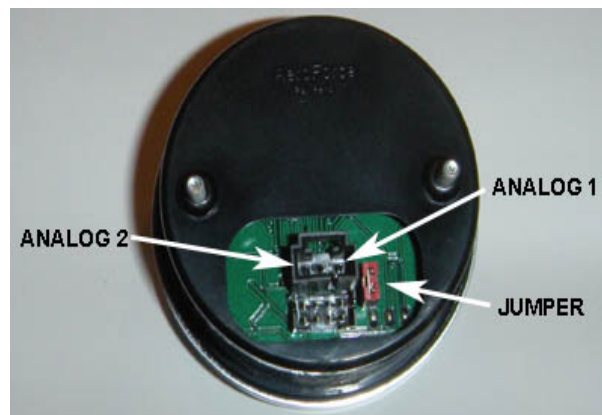

Figure 1
- 4. Plug both cables into the back of the *Interceptor*.** See figure 1. Press the *Interceptor(s)* into the gauge pod or mounting hardware.
6. **Connect the 0-5v analog inputs (optional).** You will see 3 pins above the main connector on the back of the gauge as shown in *figure 1*. The 2 outer pins connect to the analog inputs. The center pin is for switched 12v power and is not required for virtually any CAN bus vehicle. To connect switched 12v power first remove the **jumper** next to the main connector if connecting to external power. This jumper is required for OBD2 port power only. Connect separate **red** power wire, which exits the middle of the 3 wire mini cable as shown in *figure 1*, to a switched 12v line or circuit in the vehicle. These circuits are commonly known as “accessory” circuits because they are only “hot” when the ignition is turned on. A recommended way of doing this step is to use a product called an “*Add a Circuit*”, made by *Littelfuse*, available at most car parts outlets. These kits, which sell for under \$10, allow you to easily use an existing circuit in the fuse block, such as the power windows, sunroof, etc. to power the gauge only when the ignition is on, known as ACC circuits.
The right side pin, when looking at the rear of the gauge, goes to analog input 1. The left pin is for analog input 2. See *figure 1*. Included in the gauge packaging is a 3 wire cable that connects here. Once attached to the gauge, you'll see that the green wire is for analog 1, the white for analog 2. These inputs can be used to read the outputs from pressure senders, A/F ratio analog outputs, 2 or 3 bar MAP sensors, or any voltage up to 5v that you want to monitor and/or record. You can scale these signals with a menu function described below. ***These inputs are rated for 0-5 volts, with an over-voltage protection circuit built in. However, running more than 6v into these inputs for an extended period of time could effect the operation of the entire gauge, and possible damage it.***
7. **Connect switched 12v power (if necessary).** The center pin of the 3 wire harness is for switched 12v power and is not required for virtually any CAN bus vehicle. However, if the gauge is not turning on/off as desired with power coming from the OBD2 port, you can use this method of power as an alternative. To connect switched 12v power first remove the **jumper** next to the main connector if connecting to external power. This jumper is required for OBD2 port power only. Connect separate **red** power wire, which exits the middle of the 3 wire mini cable as shown in *figure 1*, to a switched 12v line or circuit in the vehicle. These circuits are commonly known as "accessory" circuits because they are only "hot" when the ignition is turned on. A recommended way of doing this step is to use a product called an "*Add a Circuit*", made by *Littelfuse*, available at most car parts outlets. These kits, which sell for under \$10, allow you to easily use an existing circuit in the fuse block, such as the power windows, sunroof, etc. to power the gauge only when the ignition is on, known as ACC circuits.